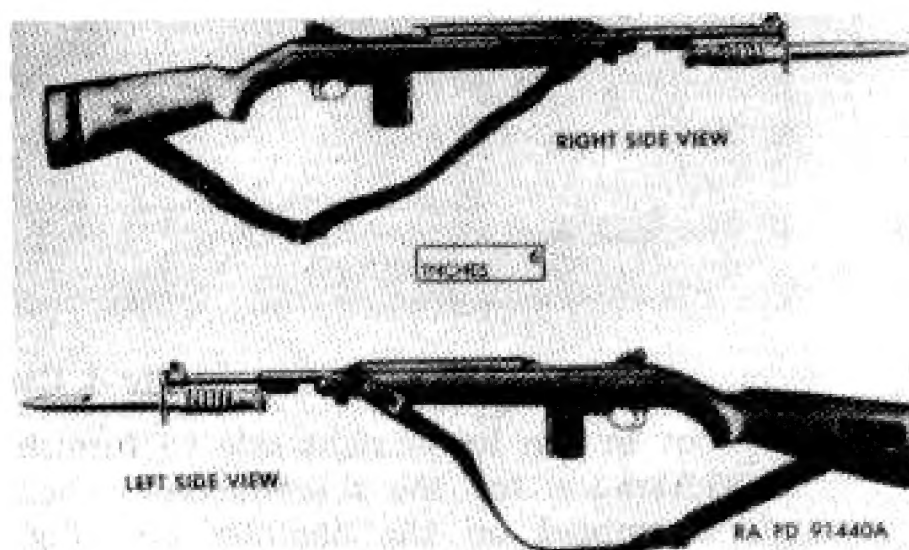

Figure 1. Cal. .30 carbine M1.
*b. Cal. .30 Carbines M1 and M1A1* (Figs. 1 and 2). The only difference between the carbines M1 and M1A1 is the stock. The M1 has a one-piece wooden stock, whereas the M1A1 has a folding metal stock extension and a wooden hand grip.